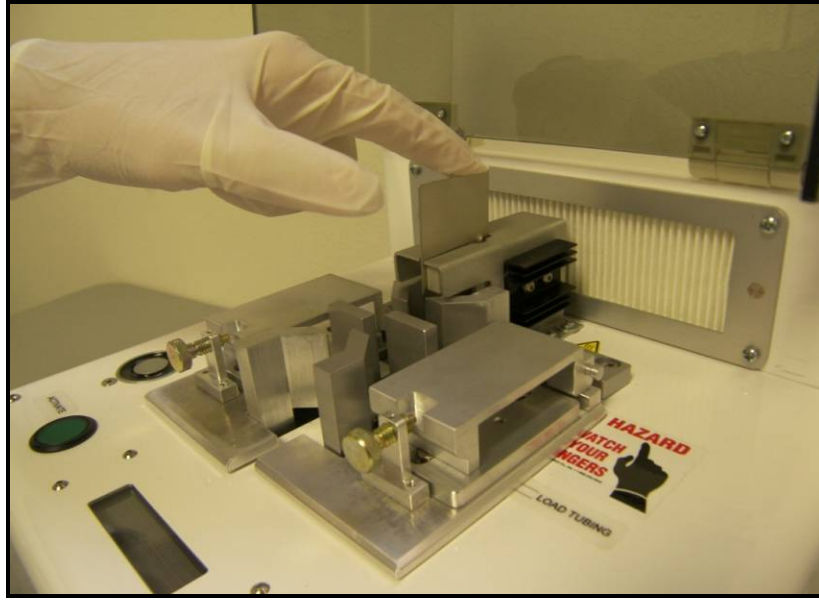

Figure 2.1 Blade Loading Procedure
2.2.3 Push the blade into the holder as shown in Figure 2.1. Be sure to insert the blade sufficiently so it clears the blade assembly housing. Also ensure that it will recognize the new blade. Proper alignment of the pink dot on the blade with red optical sensor is required for operation. The previous blade will be displaced and fall into a holding area just above the blade box. It cannot and will not be ejected into the blade box until the next cycle begins.